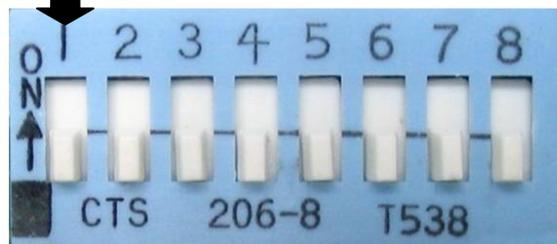
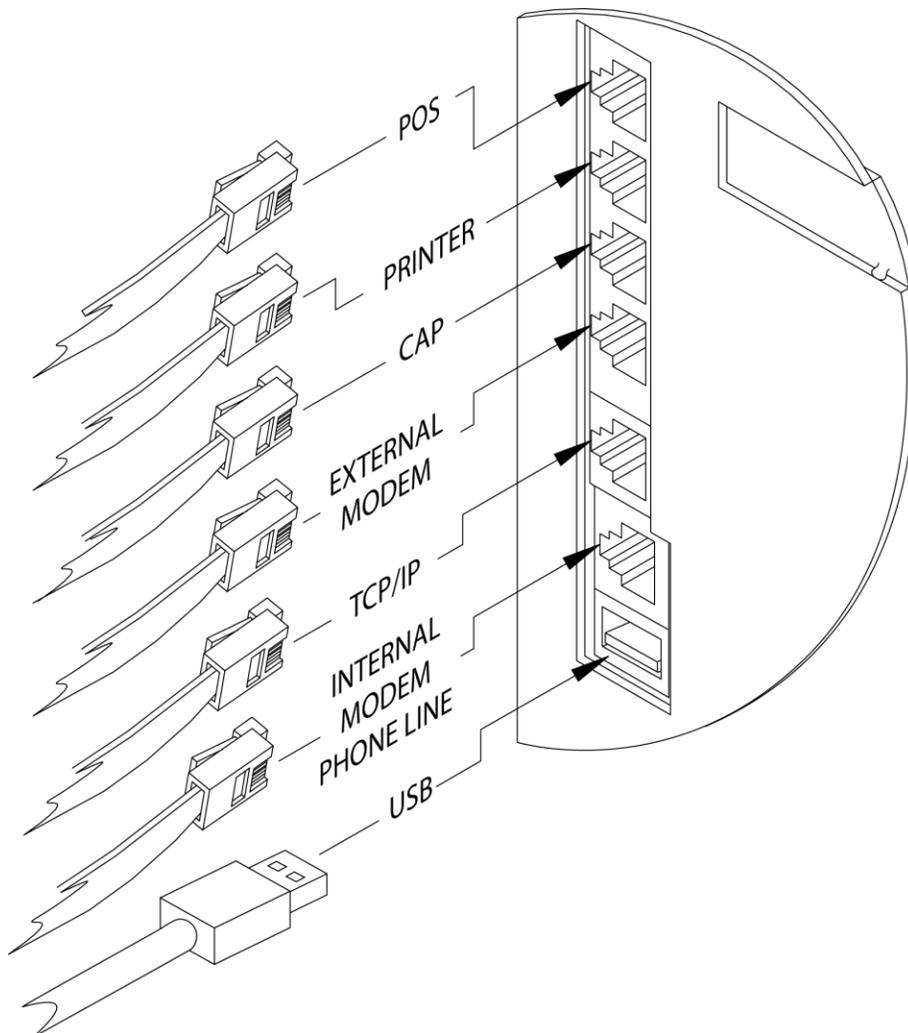
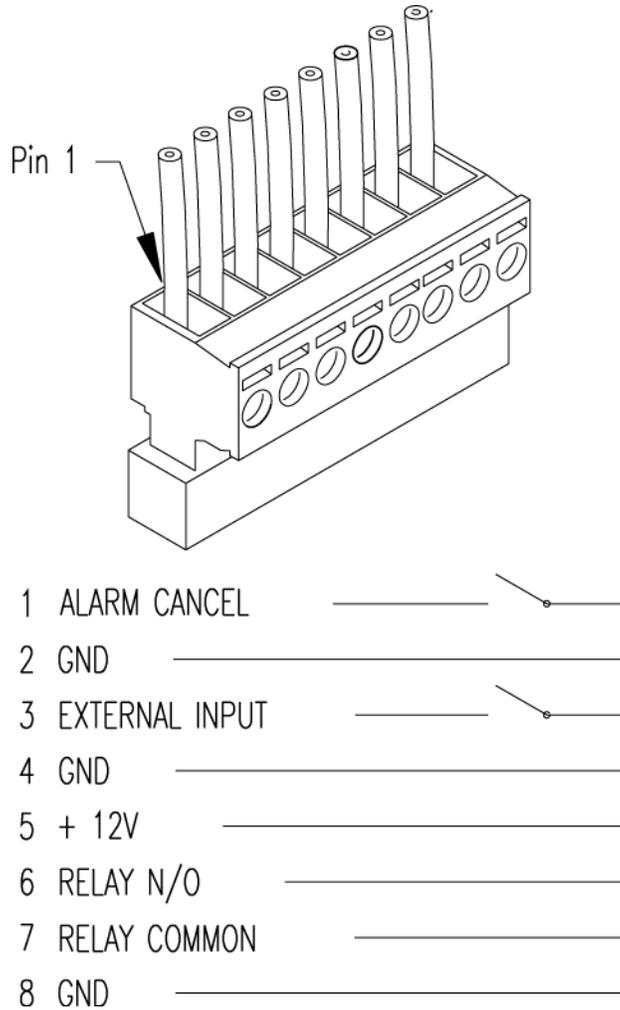

Figure 14-2 Dip Switch for Modem Settings
Figure 15-1 SiteSentinel® iTouch™ RJ-45 Communication Ports
Figure 16-1 SiteSentinel iTouch Terminal Block Connections
Certain areas of the drawing are expanded in Figure 14-2 below, Figure 15-1 on page 77 and Figure 16-1 on page 78. The modem settings are detailed on page 80.
The SiteSentinel® iTouch™ Controller has five (5) RJ-45 ports as shown in Figure 15-1 below. From top to bottom, they are for:
Connect the phone line from the junction box to the controller using the supplied RJ-11 cable. See Figure 15-1 on page 77 for the Phone Line port location.
When using an external modem, attach the modem to the external modem port using an external modem cable (OPW Fuel Management Systems part number **20-1517-04**). See Figure 15-1 on page 77 for the External Modem port location.
The SiteSentinel® iTouch™ Controller is normally configured using the supplied direct connect cable and SiteConnect™ Windows® software. Connect the RJ-45 end of the cable into the CAP port on the controller and the other end of the cable into one of your PC's serial ports. See Figure 15-1 on page 77 for the CAP port location.
SiteSentinel® 1 is equipped with built-in TCP/IP port and supports DHCP function. For port location, please refer to Figure 15-1 on page 77. The controller will automatically accept the TCP/IP address assigned by local LAN.